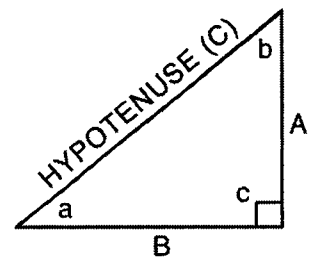

Figure A6
14. (see Figure A6) With this formula, you can calculate the length of the hypotenuse if you know the lengths of the other two sides. For example, if side A = 3 inches and side B = 4 inches, what is the length of the hypotenuse? The solution is given below:
16. (C) The hypotenuse is usually called C, although there are no set rules about this. For all of the examples given here, Figure A6 applies. The hypotenuse is called C.